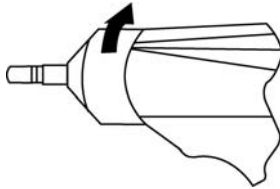

Figure 1: Probe nose cone removal
2. Rotate the nose cone portion of the probe counterclockwise until the nose cone is completely separated from the probe (Figure 1).